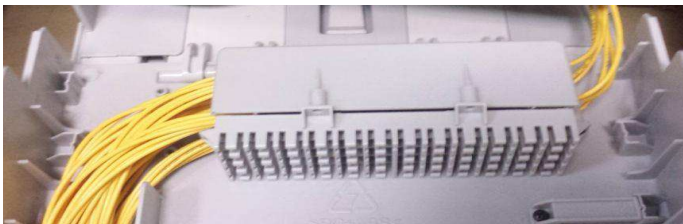

Figure 24
1.6.2 Install the splitter into the holder (Fig. 24) and screw the parking holder in place to support the splitters;